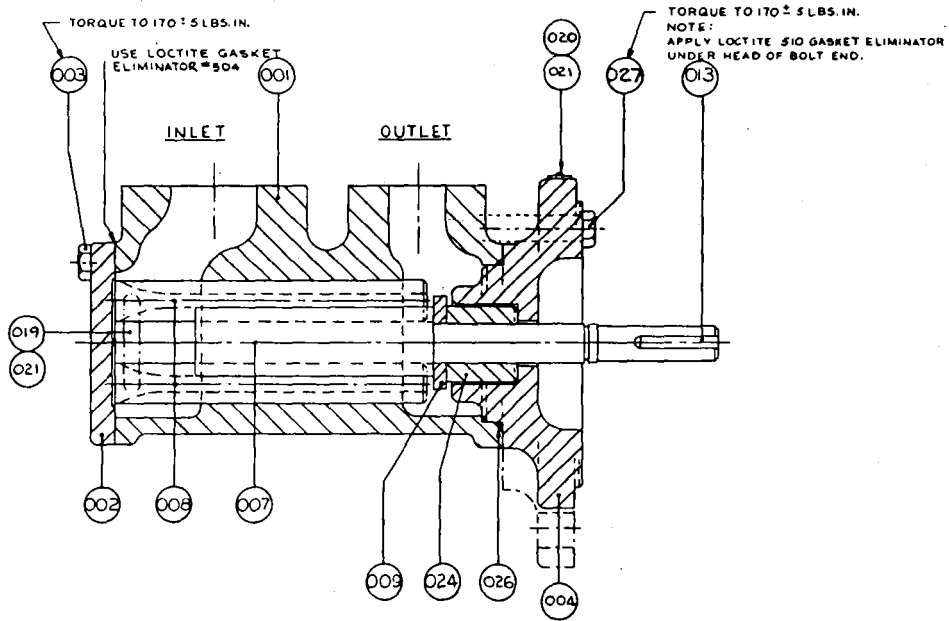
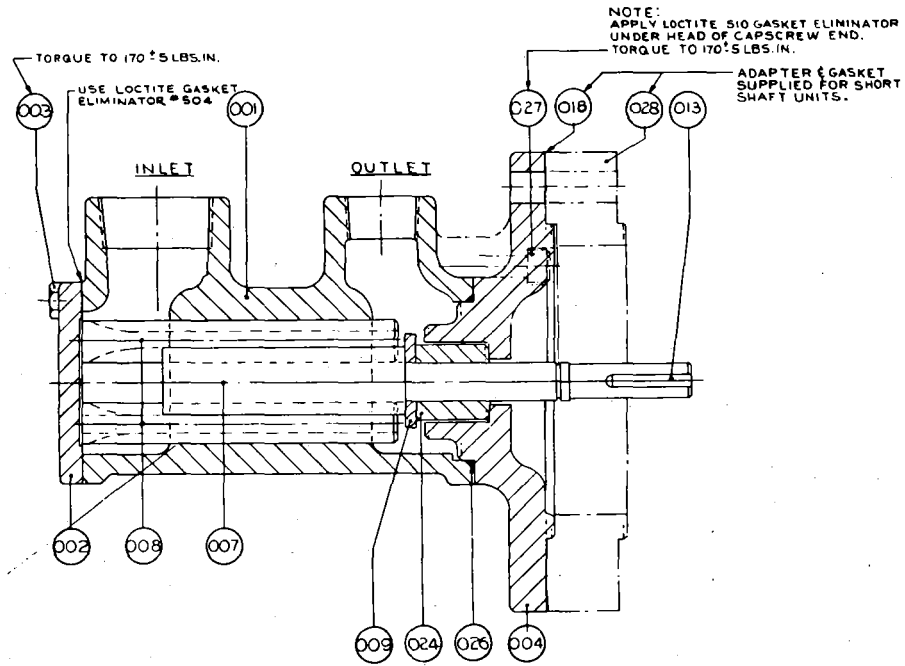
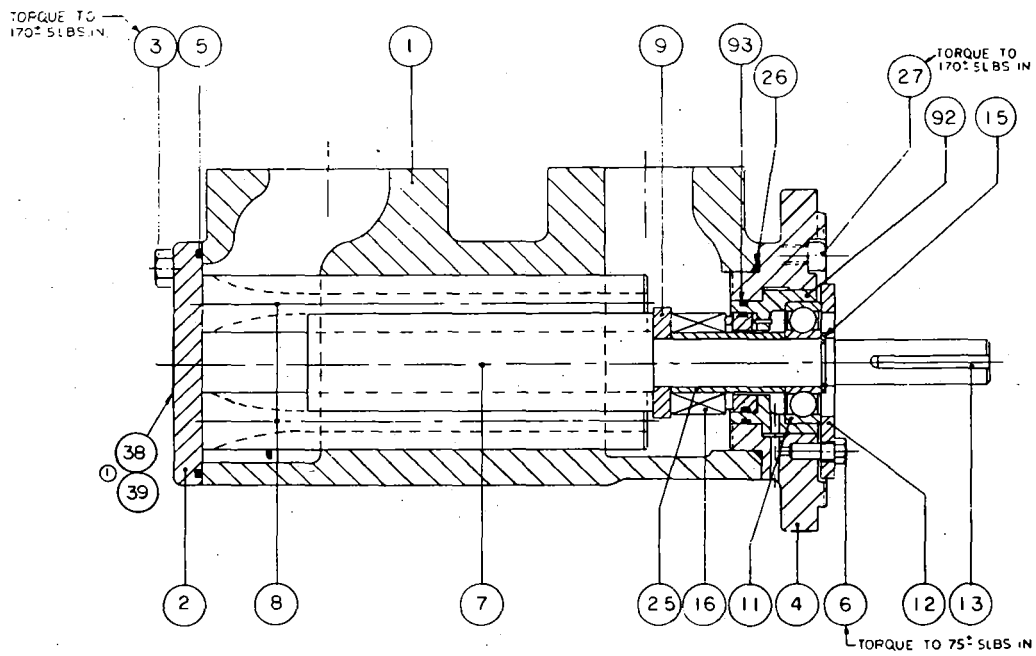

FIGURE 11. Assembly Drawing SC-6122
FIGURE 13. Assembly Drawing SC-6121
FIGURE 14. Assembly Drawing SC-6150
DISASSEMBLY AND ASSEMBLY PROCEDURES (Figures 11 through 15)
(Figure 13). Remove adapter (028) and gasket (018) from flange of case (001). NOTE: Adapter (028) is retained by special mounting of pump.
- (a) Remove bolts or capscrews (027), **(Figure 13 through 15)** and cover (004) from case (001). **(Figures 14 and 15 Only)**. Follow steps (a) and (b) of servicing mechanical seal and bearing, **(Figures 5 through 8, 14 and 15)**. Remove O-ring (026) from either cover (004) or case (001). **(Figures 11 through 15)**. Clean Loctite compound from heads of capscrews or bolts (027).
- (b) **(Figures 14 through 15 Only)**. Power rotor (007) has previously been removed in step (a) above. All other figures, grasp power rotor (007) and pull power rotor (007) and idlers (008) from pump. DO NOT permit idlers to fall as they are removed from pump.
(Figures 11 through 14). Idler stop (009) and piston (024) or sleeve (025) are factory assembled on power rotor (007) and should not be removed.
- (c) Remove bolts (003) and cover (002). Clean Loctite gasket eliminator No. 504 from cover (002) and flange of pump case (001).
- (d) **(Figure 14 Only)**. Install O-ring (005) into cover (002).
- (b) **(Figure 14 Only)**. Install O-ring (005) into cover (002) instead of applying Loctite. All other figures, wipe all traces of oil from mating flange of cover (002) and pump case (001) and apply a thin coat of Loctite gasket eliminator No. 504 to both cover (002) and case (001) using bolts (003). Torque bolts (003) to 170 lbs. inch (± 5 lbs. inch).
- (c) **(Figures 14 through 15 Only)**. Install idler rotors only into idler bores in this step. All other figures, mesh idlers (008) with power rotor (007) and install assembly into pump rotor bores.
- (d) Install O-ring (026) on cover (004) flange.
- (e) **(Figures 11 through 15)**. Apply Loctite gasket eliminator No. 510 under heads of capscrews or bolts (027).
- (f) Install cover (004) on case (001) using bolts or capscrews (027, Figure 13 through 15). Torque bolts or capscrews (027) to 170 lbs. inch (± 5 lbs. inch). **(Figures 5 through 8, 14 and 15 Only)**. Complete assembly of pump by following steps (a) through (g) outlined in installation of seal and bearing found on pages 2 and 3 of this manual.
- (g) **(Figure 13)**. Install gasket (018) and adapter (028) on flange of pump case (001). NOTE: Adapter (028) is retained by special mounting of pump.
- (h) Install key (013) and coupling hub on power rotor (007). Install pump on driver and check alignment as described in CA-1 manual. Prime pump to expel all air prior to starting.